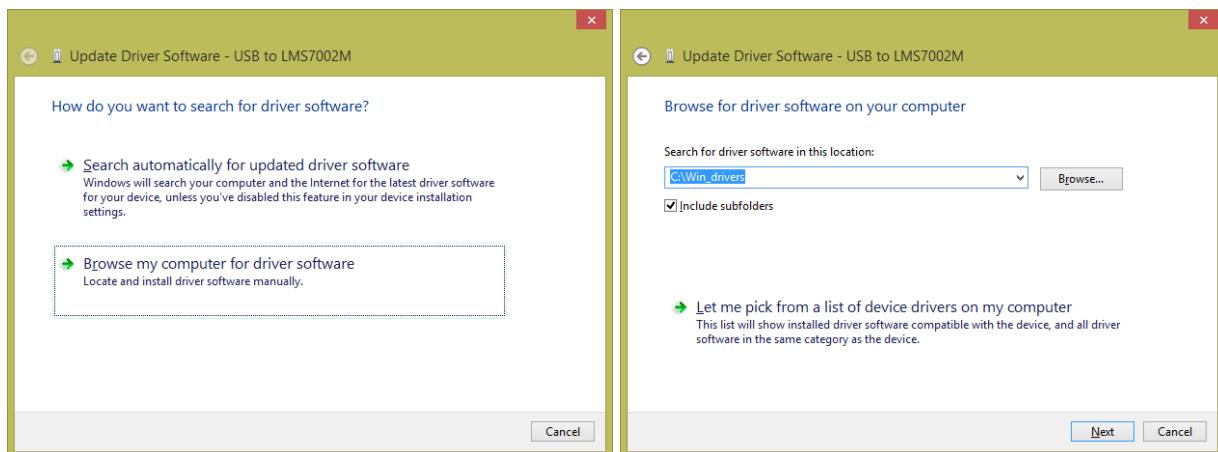

Figure 5 Update Driver Wizard.
5. Select **Browse my computer for driver software**, locate the driver provided with UNITE7002 board and press **Next** *Figure 5*